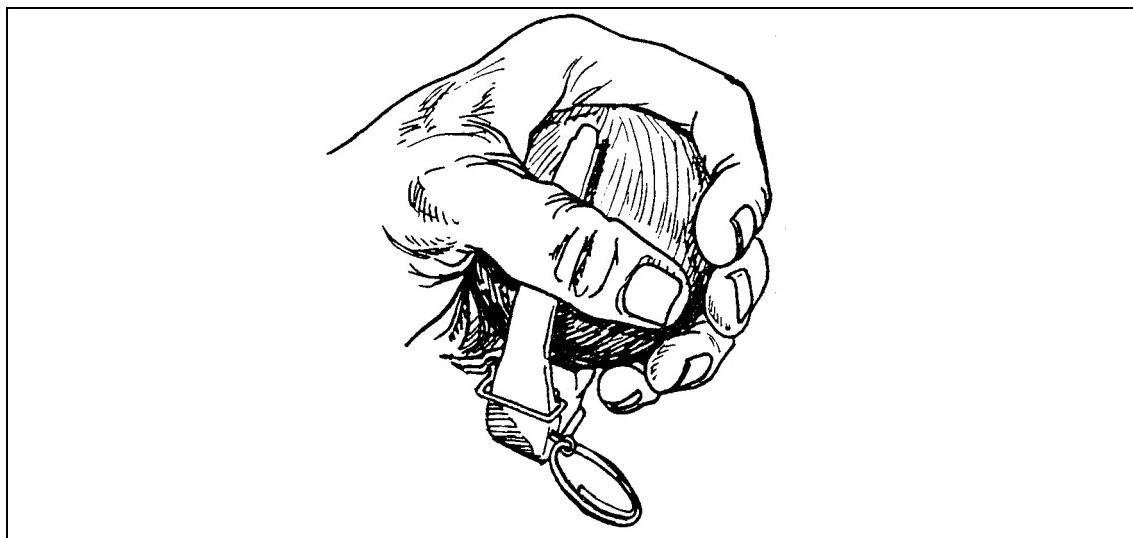

Figure 3-4. Left-handed grip.
- Left-handed soldiers invert the grenade with the fingers and thumb of the throwing hand positioned in the same manner as by right-handed personnel (Figure 3-4).